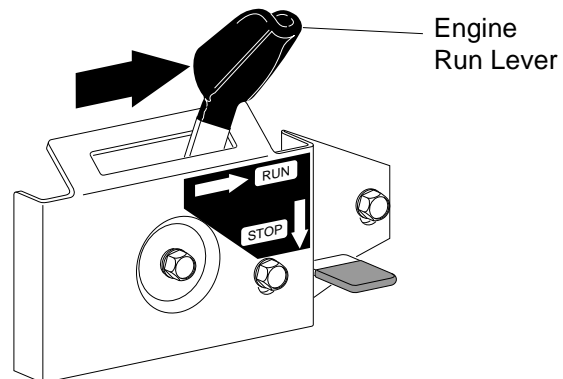

Figure 16 - Engine Run Lever In RUN Position
3. Move engine run lever to the RUN position (see Figure 16).